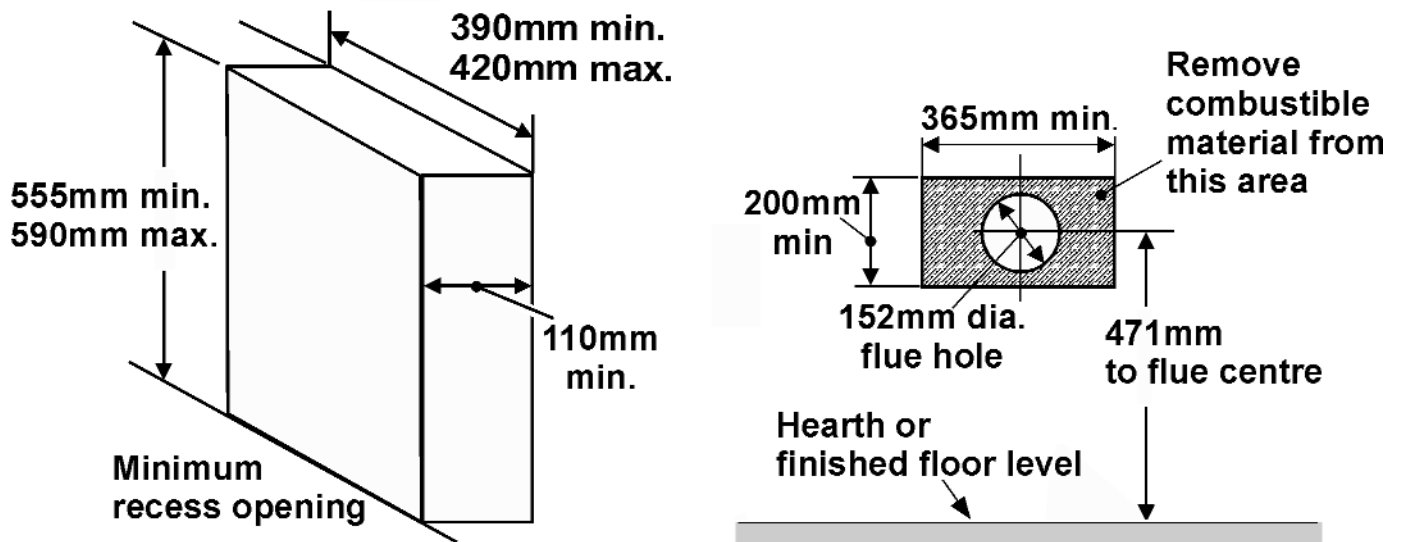

Figure 2. Recess and flue hole dimensions.
5.5.2 A hole 152mm (6in) dia. is required through the wall for the flue unit. The height of the hole centre is shown in figure 2 and on the wall-fixing template supplied with the appliance.
- c) Recessed into a builder's opening or cavity of a non-combustible wall. The minimum cavity size is shown in figure 2. The cavity can be elevated. A lintel may be required above the recess opening. If in doubt seek expert building advice. Lintel construction details are given in section 8 of this guide.